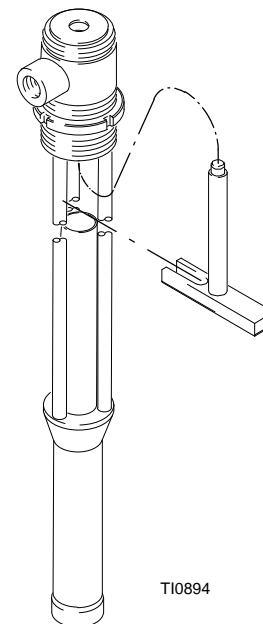

Fig. 5
4. Unscrew the piston valve housing (109) from the lower connecting rod (115). Unscrew the piston body (113) from the piston valve housing (109).
5. Unscrew the lower connecting rod (115) from the upper connecting rod (120). Remove the cup packings (107), bearing (108) and backup washer (114).
6. Lubricate the packings (107**) and bearing (108**) with no. 2 lithium-based grease. Install the backup washer (114) on the lower connecting rod (115), making certain that the grooves face up.
7. On the upper connecting rod (120), install one cup packing (107**) with the lips facing up, the bearing (108**), and the second packing (107**) with the lips facing down. Reconnect the upper and lower connecting rods. Torque to 20-25 ft-lb (27-34 N.m).
8. Lubricate the packings (111**) and bearing (112**) with no. 2 lithium-based grease. On the piston (113), install one cup packing (111**) with the lips facing down, the bearing (112**), and the second packing (111**) with lips facing up. Install the backup washer (110), with the grooves facing down.
9. Place the ball (104**) atop the piston body (113), then screw the piston body and piston housing (109) together. Torque to 30-35 ft-lb (41-48 N.m). Screw the piston valve housing onto the lower connecting rod (115). Install the seal (134**), *with the lips facing down*, in the displacement pump frame (119), then install the bearing (118**). The seal (134**) should be installed from the bottom of the frame using tool 233582. See fig. 5. Use a turning motion to work the connecting rod and piston back into the pump frame (119).
4. Unscrew the piston valve housing (309) from the lower connecting rod (315). Unscrew the piston body (313) from the piston valve housing (309).
5. Unscrew the lower connecting rod (315) from the upper connecting rod (320). Remove the cup packings (307), bearing (308) and backup washer (314).
6. Lubricate the packings (307**) and bearing (308**) with no. 2 lithium-based grease. Install the backup washer (314) on the lower connecting rod (315), making certain that the grooves face up.
7. On the upper connecting rod (320), install one cup packing (307**) with the lips facing up, the bearing (308**), and the second packing (307**) with the lips facing down. Reconnect the upper and lower connecting rods. Torque to 20-25 ft-lb (27-34 N.m).
8. Lubricate the packings (311**) and bearing (312**) with no. 2 lithium-based grease. On the piston (313), install one cup packing (311**) with the lips facing down, the bearing (312**), and the second packing (311**) with the lips facing up. Install the backup washer (310) with the grooves facing down.
9. Place the ball (304**) atop the piston body (313), then screw the piston body and piston housing (309) together. Torque to 30-35 ft-lb (41-48 N.m). Screw the piston valve housing onto the lower connecting rod (315). Install the seal (334**), with the lips facing down, in the pump frame (319), then install the bearing (318**). The seal (334**) should be installed from the bottom of the frame using tool 233583. See fig. 5. Use a turning motion to work the connecting rod and piston into the frame (319).
10. Reinstall the ball (305**) and stop pin (316) in the intake valve housing (317). Screw the housing into the pump frame (319). Place the o-ring (322**) into the inner groove of the intake adapter (321). Screw the adapter onto the intake valve housing (317).
11. Lay the pump on its side and reconnect the upper connecting rod (320) with the air motor piston rod. Tighten the air motor connecting ring (AA).